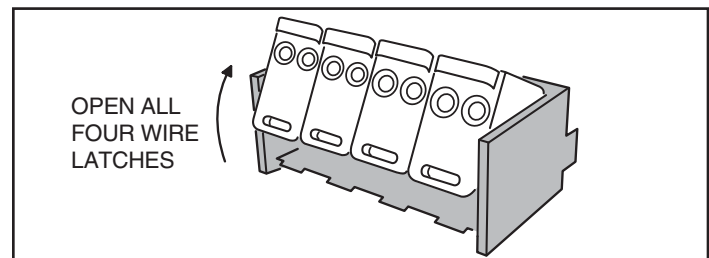

Figure 2. Open the Connector Wire Latches
STEP 3 Open the four clear plastic wire latches on the connector. See Figure 2.